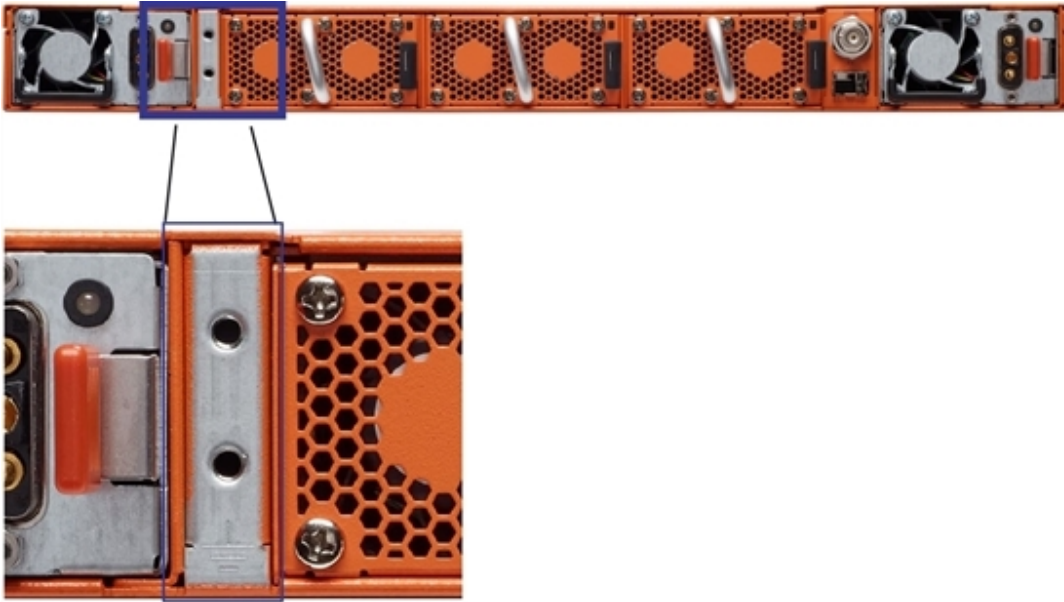

Figure 1: Holes for Ground Screws (DC-Powered GigaVUE-HC1)
1. Locate the grounding holes near the left corner at the rear of the chassis (Figure 1: Holes for Ground Screws \(DC-Powered GigaVUE-HC1\) shows the location on a GigaVUE-HC1 node).